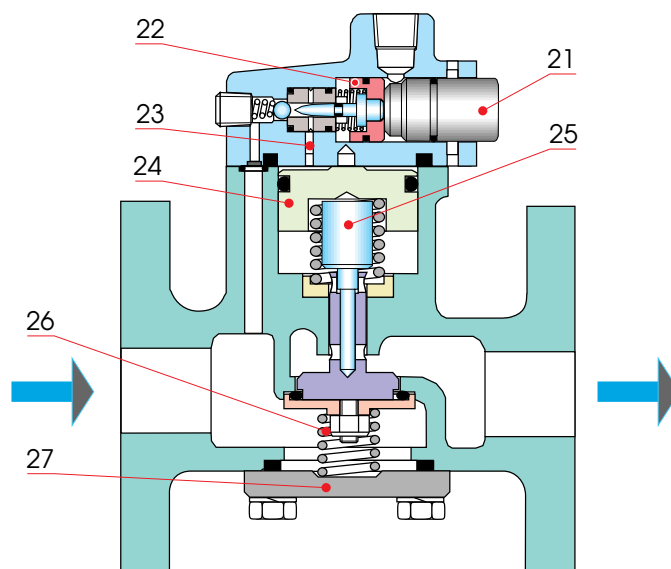

Fig 21-2
The inlet air pipe from the starting air receiver is provided with a non-return valve (2) and a drain valve (3) before the main starting valve (4). The main starting valve may be operated either by the push button (21) at manual starting, see Fig 21-2 or pneumatically by a solenoid valve, mounted under the LDU, at remote or automatic starting of the engine.